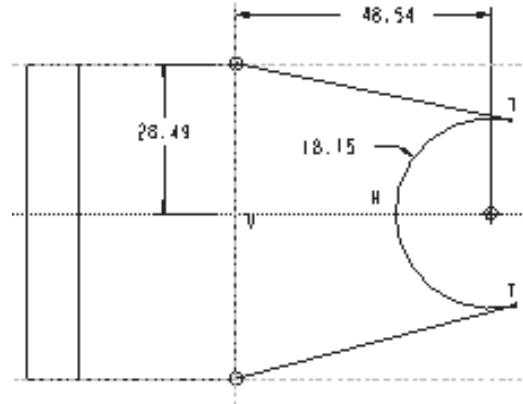

Figure B-5 Sketch after dimensioning
- Choose the **Create defining dimension.** button and select the center of the arc and the right edge of the base feature and place the dimension as shown in Figure B-5.
2. Select the top edge of the base feature and the center line and place the dimension using the middle mouse button as shown in Figure B-5.
3. Select the arc and place the dimension as shown in Figure B-5.